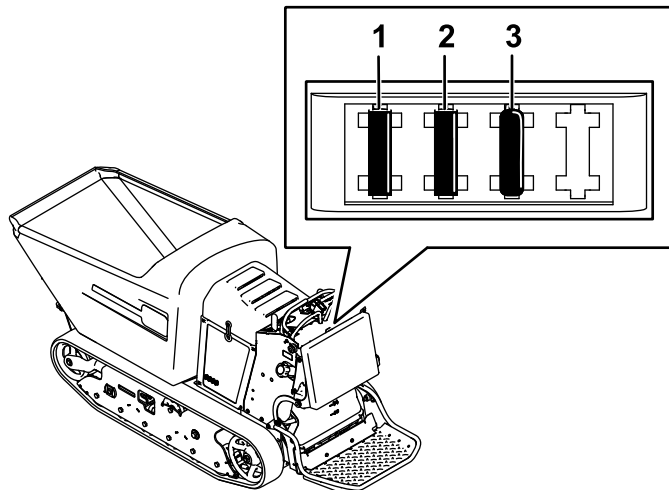

Figure 33
2. Pull out the fuse to remove or replace it (Figure 33).
**Note:** Ensure that the correct-size fuse is installed (Figure 33).